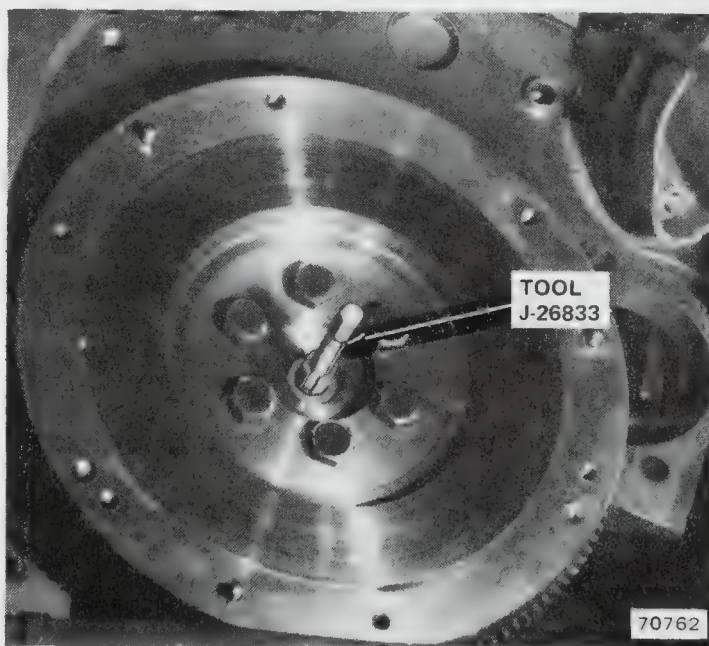

Fig. 2A-16 Pilot Bearing Removal
(1) Remove clutch cover and driven plate as outlined under Clutch Removal.
(2) Insert Pilot Bearing Remover J-26833 in pilot bearing and remove bearing (fig. 2A-16).